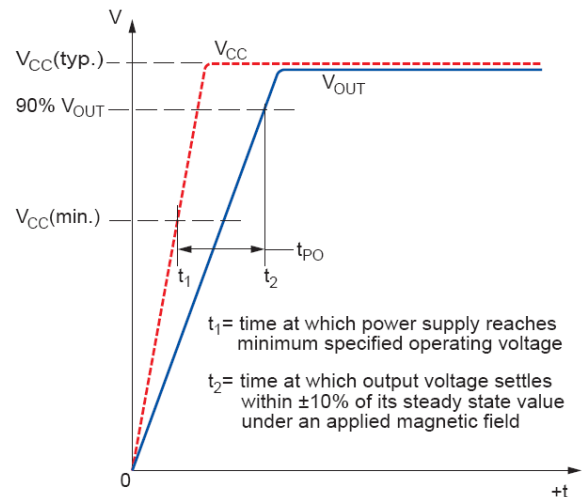

Figure 39: Power-On Time ( $t_{PO}$ )
**Power-On Time ( $t_{PO}$ ).** When the supply is ramped to its operating voltage, the device requires a finite time to power its internal components before responding to an input magnetic field. Power-on time,  $t_{PO}$ , is defined as the time it takes for the output voltage to settle within  $\pm 10\%$  of its steady-state value under an applied magnetic field, after the power supply has reached its minimum specified operating voltage,  $V_{CC}(\text{min.})$ , as shown in Figure 39.